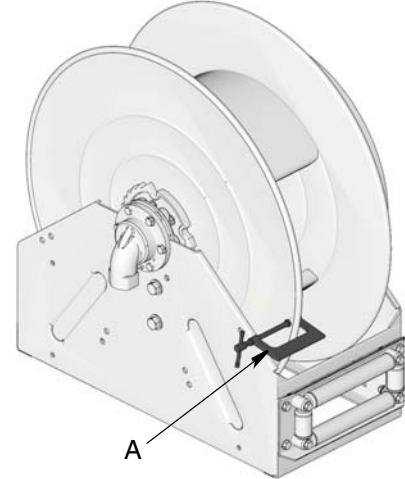

FIG. 10
13. Securely attach a c-clamp (A) to the reel spool as shown in FIG. 10 to help prevent the reel from unintentionally becoming unlatched and spinning freely.